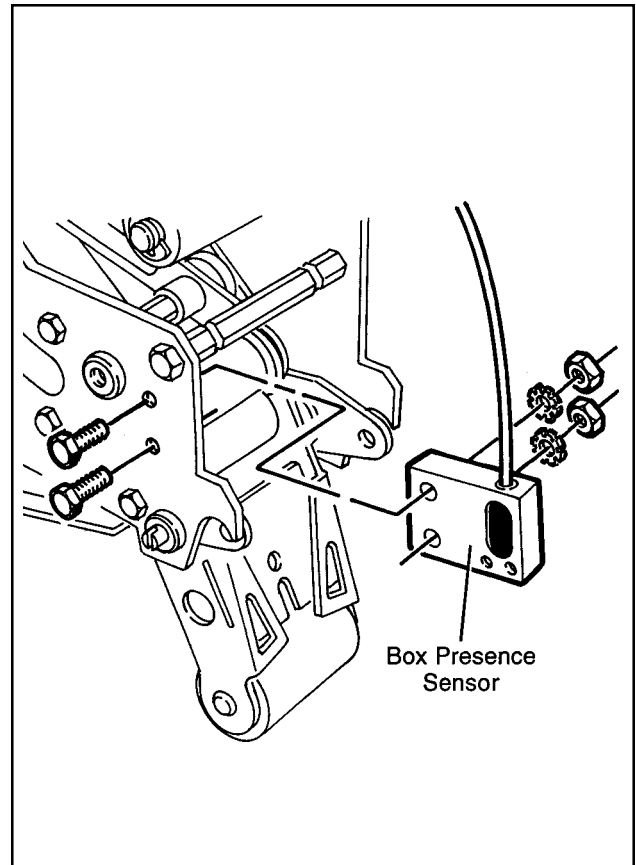

Figure 2-6
- Attach the box presence sensor to the side plate using (2) M5 x 20 mm lg. hex head bolts, external tooth lock-washers and nuts provided. See Figure 2-6. **Do not tighten screws** (to be tightened after later alignment). The box sensor cable should face 180° away from where the corrugated box would be during case sealer operation.